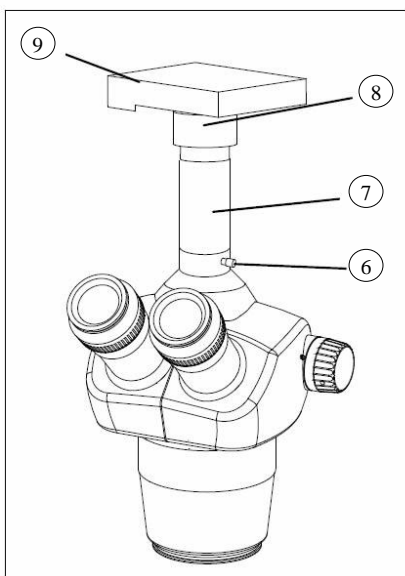

Figure 6
1. Installing the video set: Remove the dust cap of the trinocular viewing tube, revolve the camera set ⑤ into the screw thread end---the video adapter ④ with C mount, and insert the other end into the tri-through port and screw down the bolt ⑥.
2. Installing the photography set: Remove the dust cap of the trinocular viewing tube, install the photography accessories ⑦ into the tri-through port, and screw down the locking bolts ⑥, change the camera ⑨ gun with digital photography adapter ⑧, and insert the adapter into the accessories, as in Fig 6.